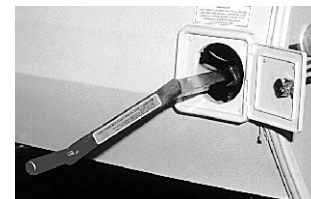

Fig. 8
4. Insert the crank into the square tube and turn it in a clockwise direction. (Fig. 8)